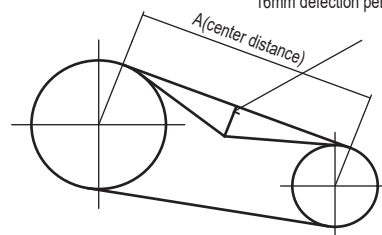

Fig.10-4
b. Act in the middle of the belt perpendicularly with a finger. Adjust belt tension until there's deflection distance, please refer to Fig 10-4. If possible, it is better to use a tension frequency test device, in order to get a more precise tension.